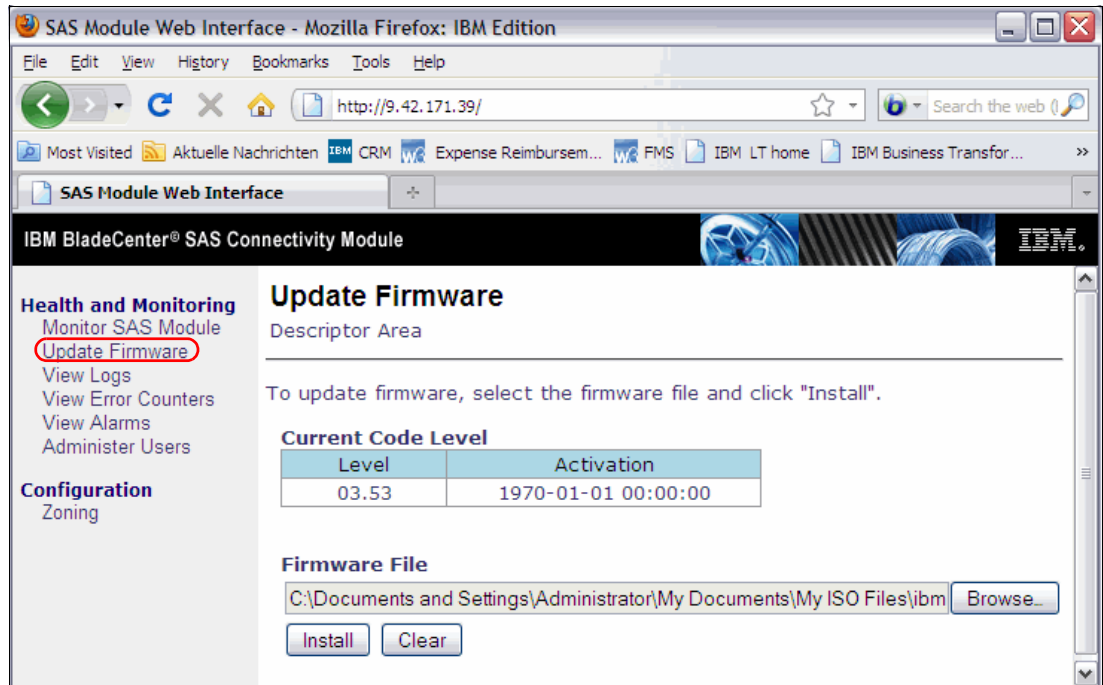

Figure 18-9 SAS Connectivity Module - Update Firmware
2. In the Monitor Module window, click **Update Firmware**. The Update Firmware window opens as shown in Figure 18-9 on page 545. The current firmware level is also displayed.